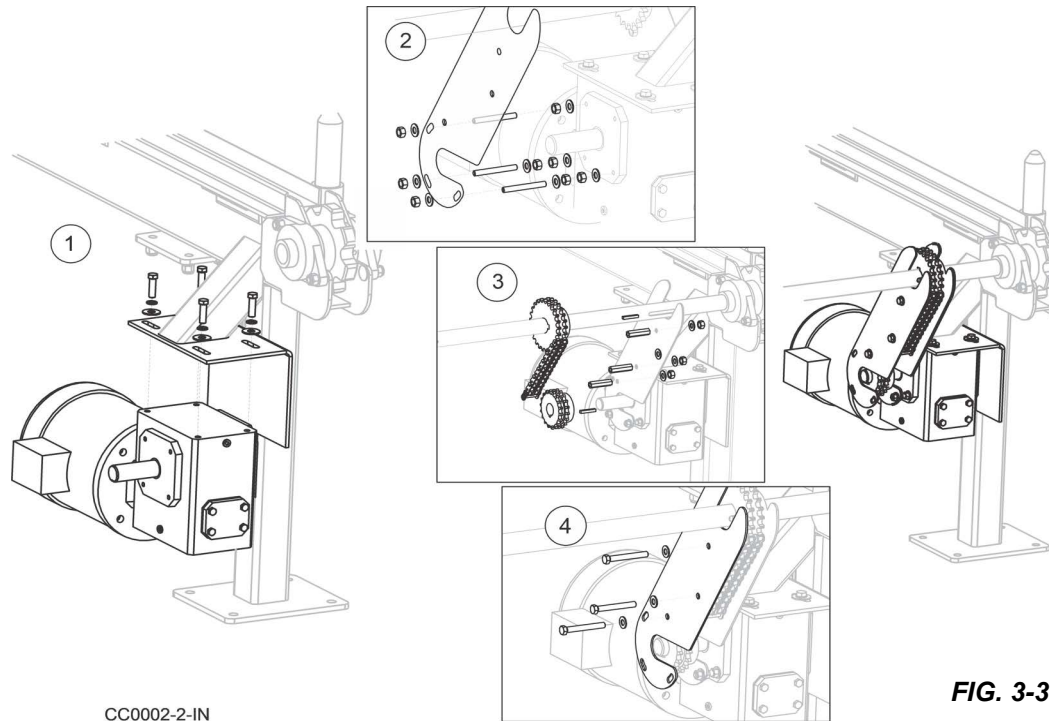

FIG. 3-3
1. Mount the motor and gearbox to the frame with the fasteners as shown in FIG. 3-3. Be sure to include both the flat and lock washers. Do not tighten at this time.
2. Install the threaded rods, nuts, and washers to the gearbox assembly as shown in FIG. 3-3.
3. Put the chain guard over the threaded rods and nuts as shown in I above. Slip the spacers over the threaded rod. Align the lower sprocket key with the gearbox shaft and sprocket, and insert as shown in FIG. 3-3. Align the lower sprocket with the upper sprocket. Mount the drive chain on the two sprockets.
4. Install the chain guard over the drive chain as shown in FIG. 3-3. Tension the drive chain by moving the gearbox assembly forward or back as needed. Tighten the gearbox mounting bolts when the drive chain has a moderate amount of tension. **Do not over tension, or damage to the gearbox or motor may occur.**